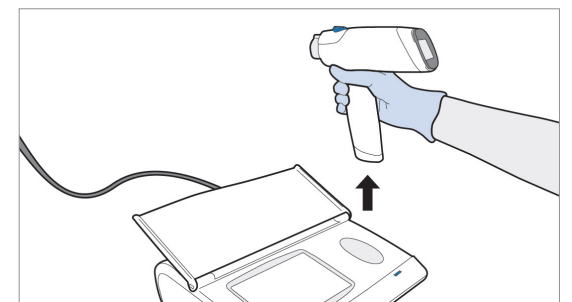

Figure 38 Remove Handset from Base Station
16. Confirm treatment is ready to begin on Base Station. Then lift the Handset off of the Base Station (see Figure 38).